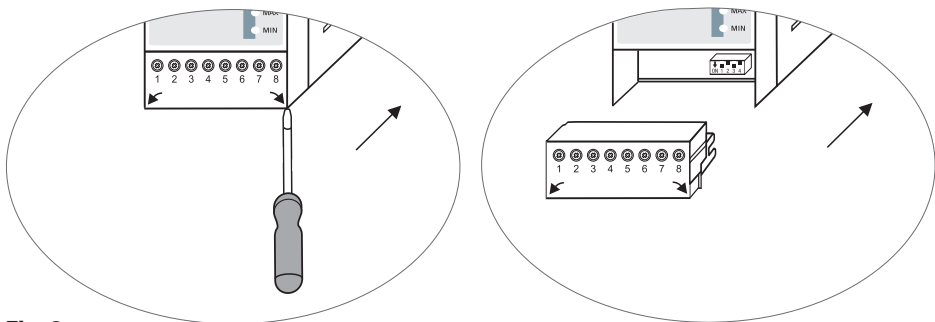

Fig. 8
- Remove the lower and upper terminal strips. **Fig. 8**